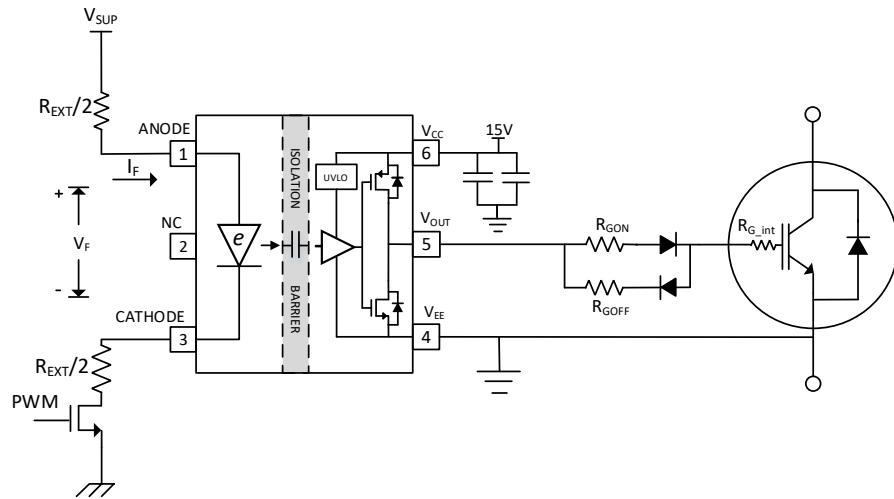
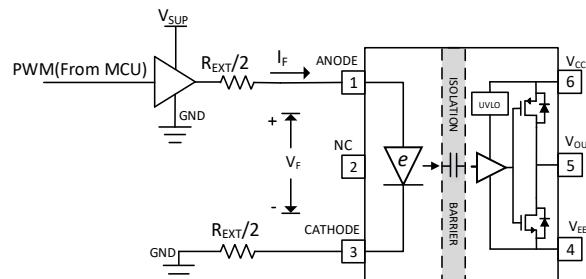
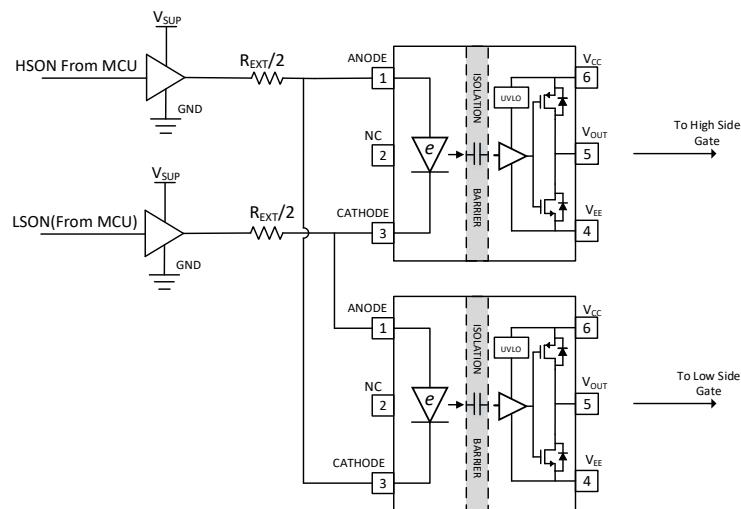

Figure 8.1 NSi6801 typical application circuit with NMOS driving input stage
Figure 8.2 NSi6801 typical application circuit with one buffer driving input stage
Figure 8.3 Interlock Protection using NSi6801
NSi6801 requires 7mA to 16mA bias current that flows into the e-diode for normal operation. The PWM from MCU is not suitable to provide such current directly and external circuit is needed. In Figure 8.1, one NMOS is used with split input resistors. Another input drive method is using one buffer, as shown in Figure 8.2. The details to calculate input drive parameters are in Chapter 8.3.
The recommended forward current range for NSi6801 is 7mA to 16mA. The value of input resistor, buffer supply voltage and buffer internal resistance influence the forward current, as shown in Equation (1). In Figure 8.1, R_{Buffer} is the on-resistance of the external NMOS. In Figure 8.2, R_{Buffer} is the buffer output impedance in output "High" state. In Figure 8.3, R_{Buffer} is the summary of buffer output impedance in "High" and "Low" state.